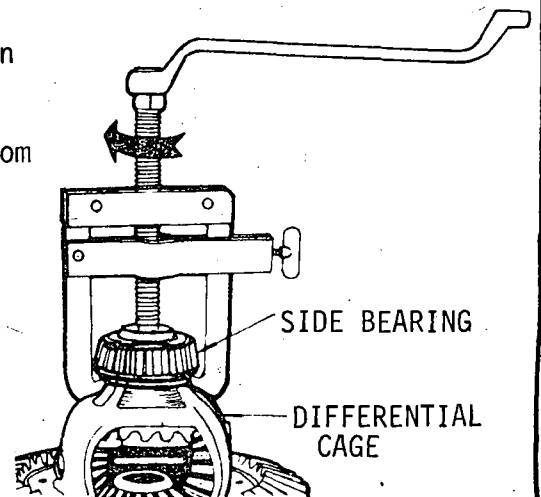

Fig. 2
- f) Extract the side bearings from the differential cage with an extractor (fig. 2).